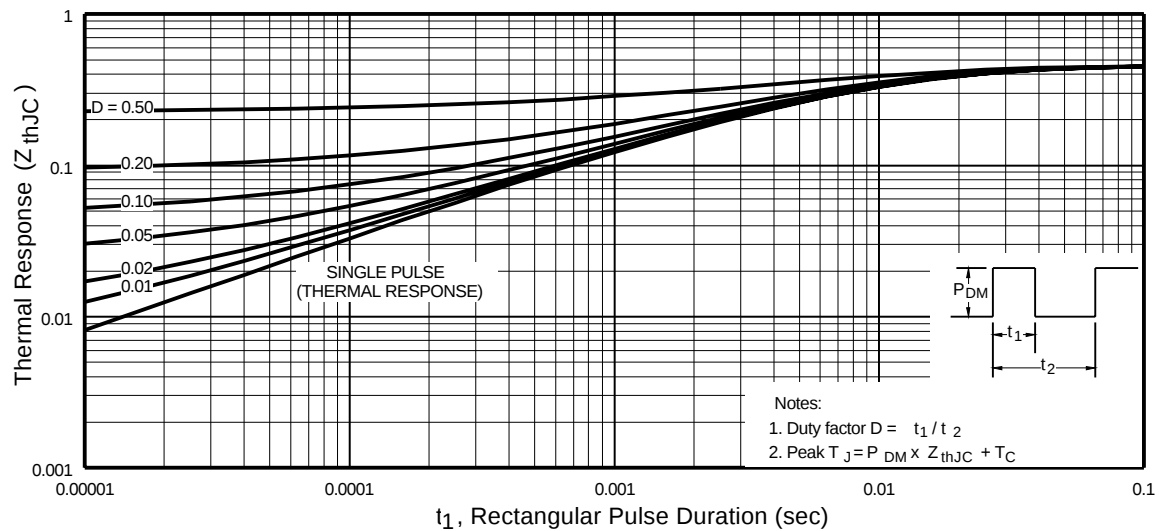

Fig 11. Maximum Effective Transient Thermal Impedance, Junction-to-Case
- ① Repetitive rating; pulse width limited by max. junction temperature. (See fig. 11).
- ② Starting $T_J = 25^\circ\text{C}$, $L = 0.11mH$
$Z_{thJC}(D, t_{av})$ = Transient thermal resistance, see figure 11)